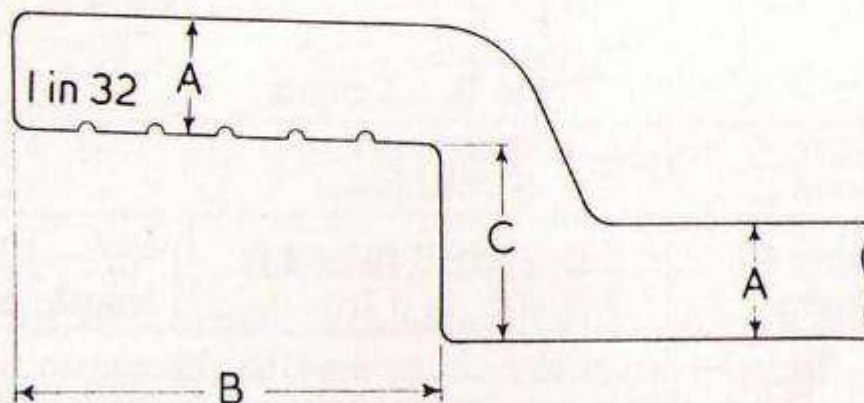

Fig. 1. Section of socket, Type 2
Type 2. The interior of the sockets of Type 2 (see Fig. 1) shall be conical having a minimum taper of 1/16 in. measured on the diameter, per inch of length (i.e. 1 in 32), thus the diameter of a socket 2 inches deep will be at least $\frac{1}{8}$ inch greater at the top than at the bottom. The depth of such sockets shall be in accordance with Table 2. The width of the shoulder (C) of such a socket of any individual pipe or fitting shall exceed the mean thickness of the barrel (A) by not less than the figures given in Column 3 of Table 2. Such socket may be grooved circumferentially or roughened inside and the depth of such grooves or roughening shall be not more than 25 per cent of the minimum specified mean wall thickness of the barrel, subject to a maximum depth of $\frac{1}{4}$ in. The requirements for the thickness of the socket are the same as those for the barrel.
Table 2. Dimensions of Sockets (Type 2) (See Fig. 1)